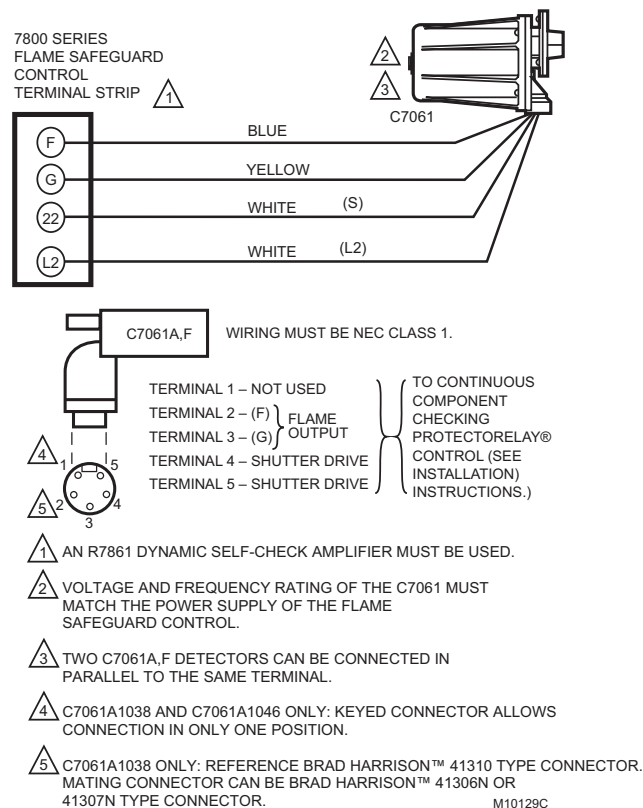

Fig. 10. Wiring diagram for C7061A,F Detectors with 7800 Series Flame Safeguard controls with shutter drive circuitry.
WIRING (FIG. 10)**CAUTION**
- Refer to Fig. 10 for wiring connections.
It is suggested that a volt-ohm meter with a minimum sensitivity of one megohm/volt and a zero to five or ten Vdc scale be used for R7861 Amplifier flame signal measurements. Measure the flame signal as illustrated in Fig. 10. Be careful to make the proper connections of positive (red) meter lead to positive (+) control jack and negative (black) meter lead to negative (-) or (-Com) jack with 7800 Series controls. When the 7800 Series control has a Keyboard Display Module, a zero to five Vdc voltage is displayed on the module.